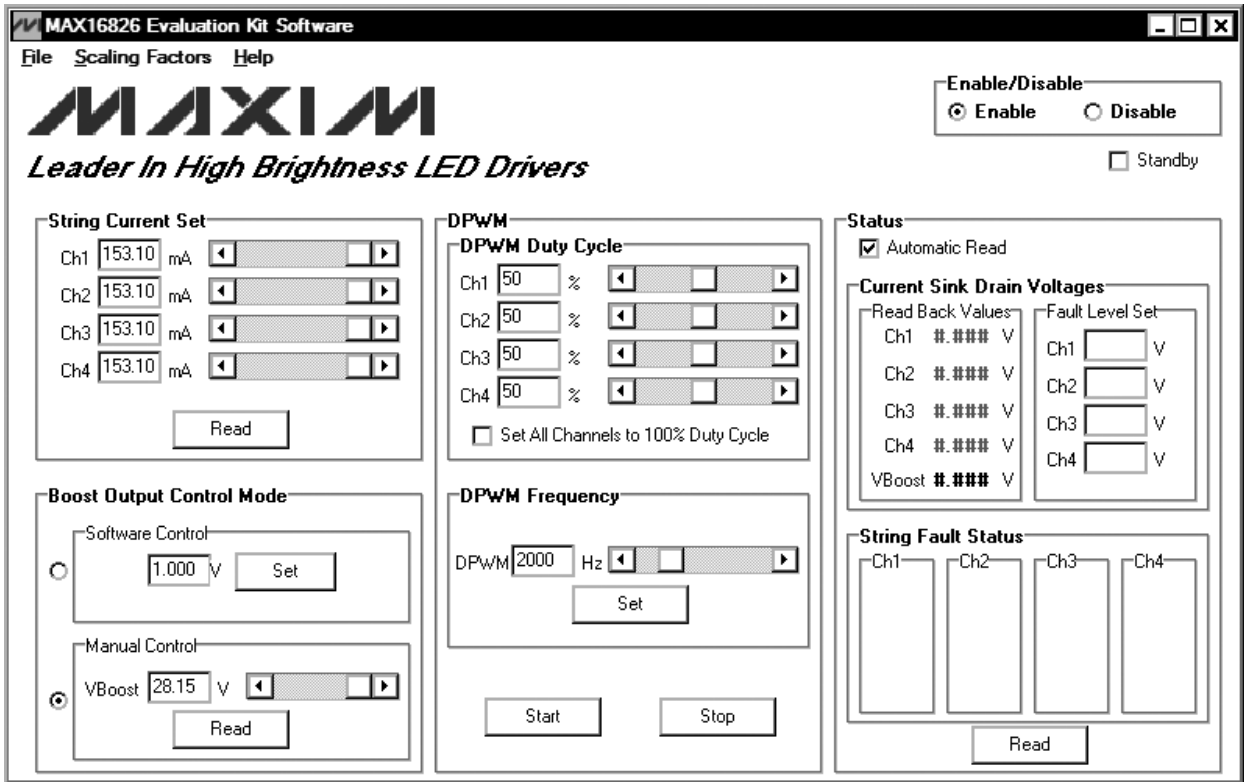

Figure 1. MAX16826 EV Kit Software Main Window
- 13) Start the MAX16826 EV kit software by opening its icon in the **Start | Programs** menu. The EV kit software main window appears, as shown in Figure 1.
Maxim MAX16826 Evaluation Kit | Maxim MAX16826 Evaluation Kit that is created during installation. The GUI main window appears as shown in Figure 1.